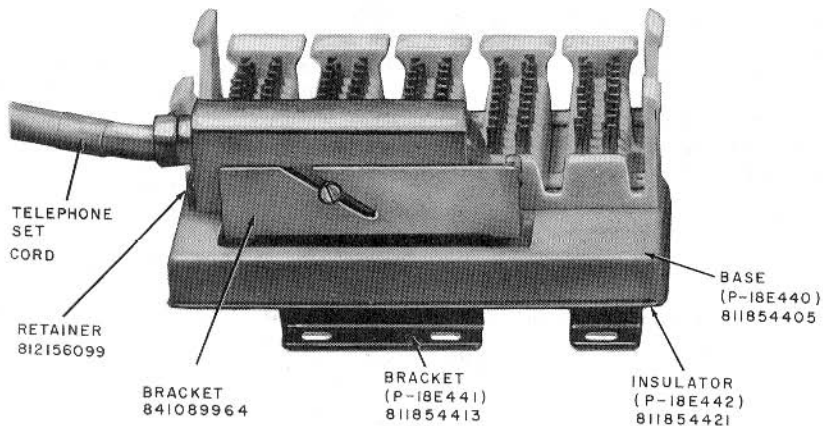

Fig. 2—66E4-25 Connecting Block
**2.04** The 66E4-25 connecting block (Fig. 2) is equipped with a molded plastic base without cable trough or cover; it incorporates a mounting bracket which allows mounting in commercial type underfloor duct service fittings. ♦Cover for 66E4-25 connecting block must be furnished by customer and should be similar to that shown in Fig. 5.♦